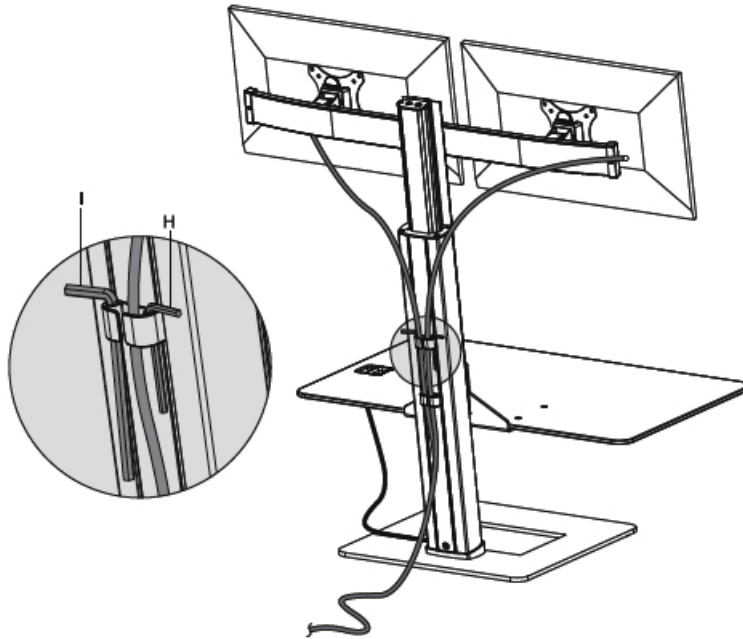

Figure 10
1. Route the cables through the wire clips and down the Support Pole, place the Allen Keys in the wire clip for safe storage, see Figure 10.